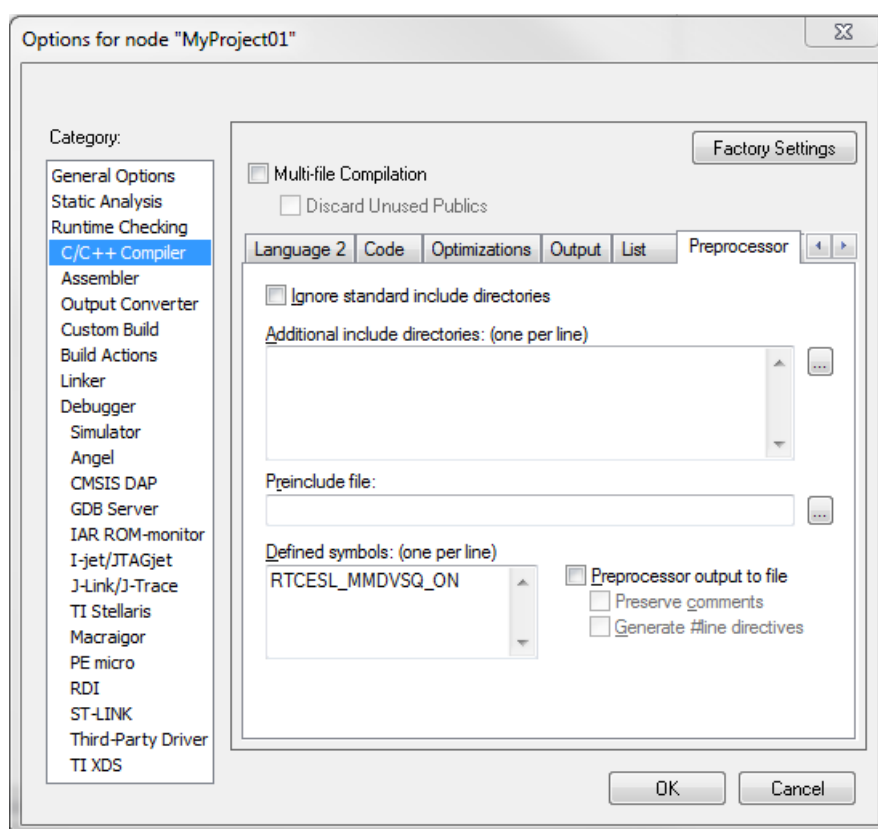

Figure 1-39. Defined symbols
4. In the text box (at the Defined symbols: (one per line)), type the following (See Figure 1-39):